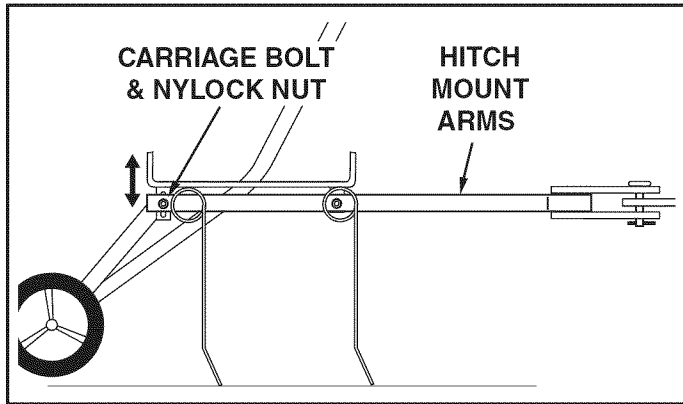

FIGURE 8
- Move the towing vehicle onto a level surface, such as a driveway or garage floor and attach the tine dethatcher to the vehicle hitch. See figure 8.
- Lower the dethatcher into operating position using the lift handle. Loosen the two nylock nuts and carriage bolts which fasten the hitch mount arms to the hitch arm mount brackets at the rear of the tine shield. Adjust the tine shield until it is level and both the front and rear spring tines are in contact with the ground. Retighten the hex nuts. See figure 8.